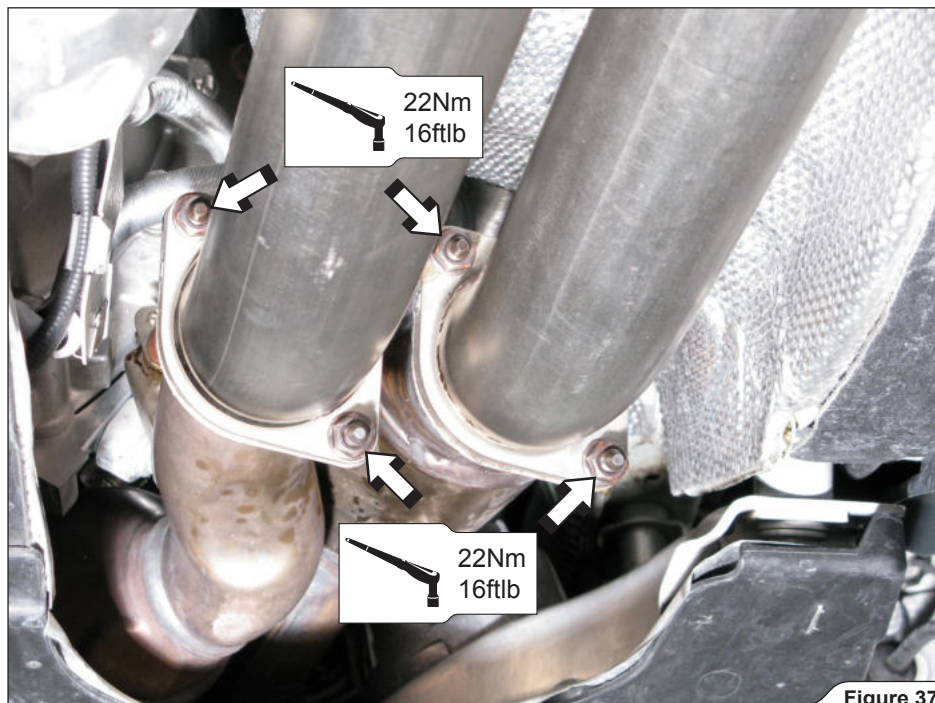

Figure 37
17. **For Evolution:** tighten the flange nuts to a specified torque (**Figure 37**).